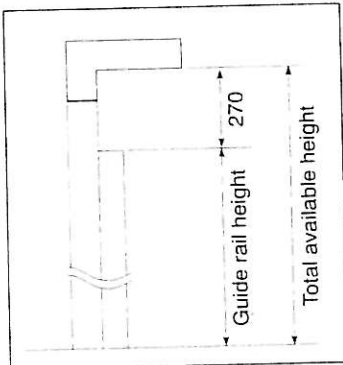

Fig 7
- Where only limited headroom is available guide rail length equals total available height less 270mm. (see Fig 7).